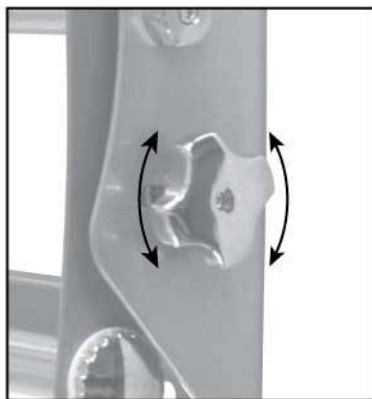

Fig. 7 - Loosen the adjustment knobs to change the tilt angle. There is one knob on each side of the mount.
4. To adjust the tilt position, have one person hold the display in position while another person loosens the two tilt adjustment knobs located on either side of the wall plate (Fig. 7). Once the knobs are loose, move the display to the desired angle. Re-tighten the knobs before releasing the angle.